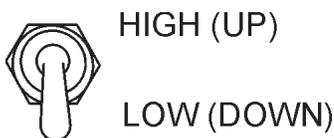

Figure 49. Engine Speed Switch (low)
7. Set engine speed switch to 'Low' (Figure 49).